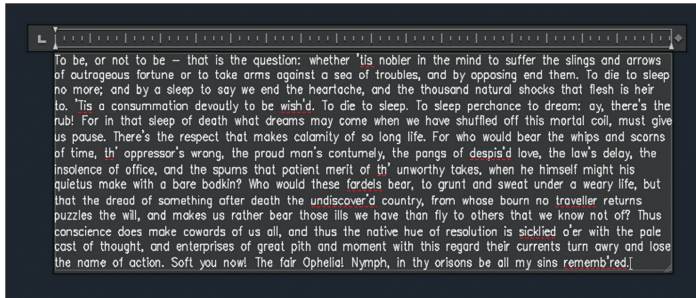

FIGURE 10.9 Importing text with the MTEXT command
- Click `Hamlet.txt` in the Select File dialog box that appears. Click Open, and text appears within the large rectangle (see Figure 10.9). The built-in spell checker identifies misspelled words by underlining them in red. Perhaps this is not surprising for English written 400 years ago, but in your own projects, right-click any underlined word that seems incorrect (which most likely wouldn't include company or product names or technical jargon) to see some correctly spelled suggestions.